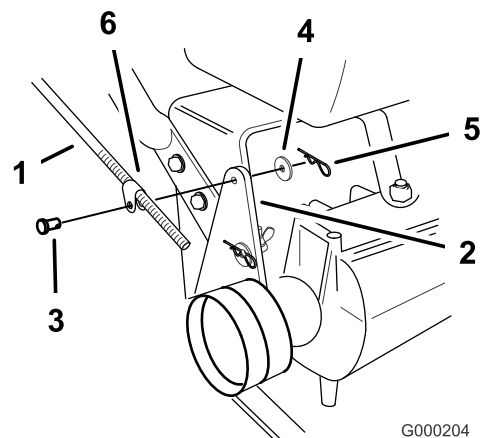

Figure 21
1. Remove hairpin cotter, washer and clevis pin securing control rod fitting to idler bracket (Figure 21).